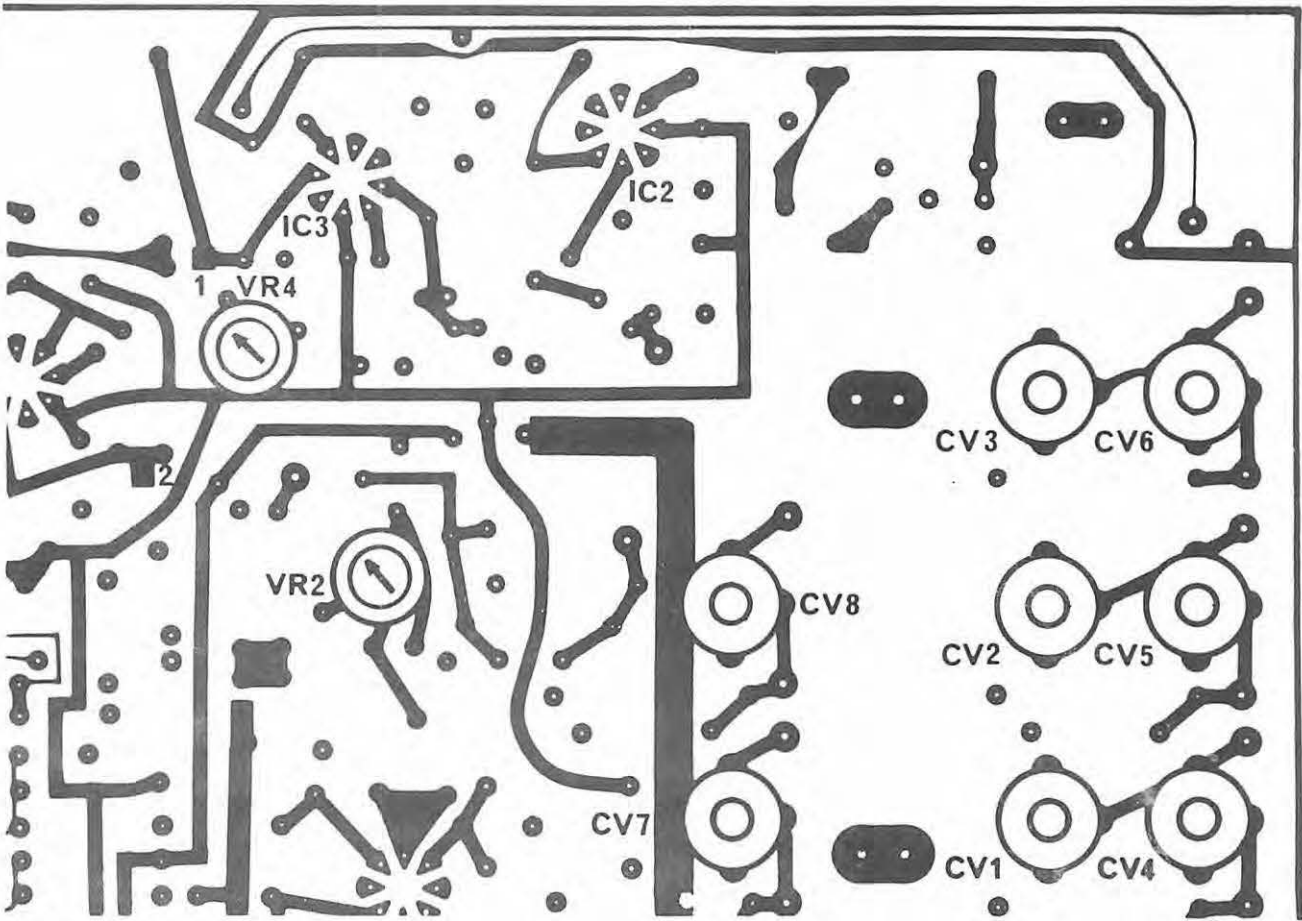

Figure 5-3 Input amplifier-location of adjustments.
- (a) Adjust CV6 for an optimum square wave output, without over or under shoot (refer to Figure 5-3).
The network shown in Figure 5-3 is required for this adjustment:—